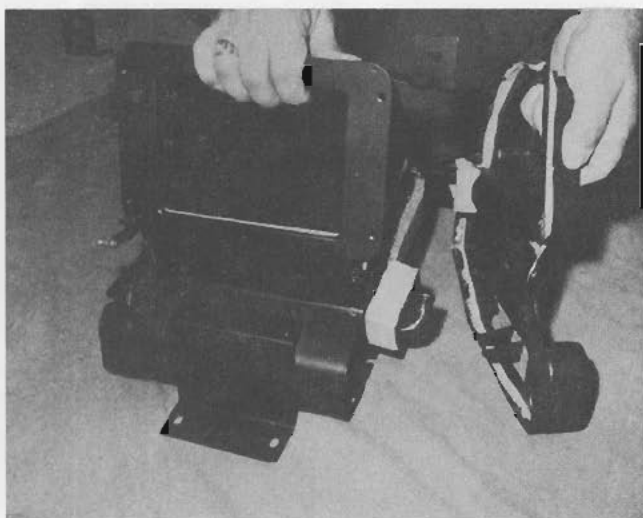

Figure III-12. Removing Heater End Plate
5. Remove the five attaching screws from the heater box end plate assembly and work the end plate away from the heater body. (As shown in Figure III-12.)